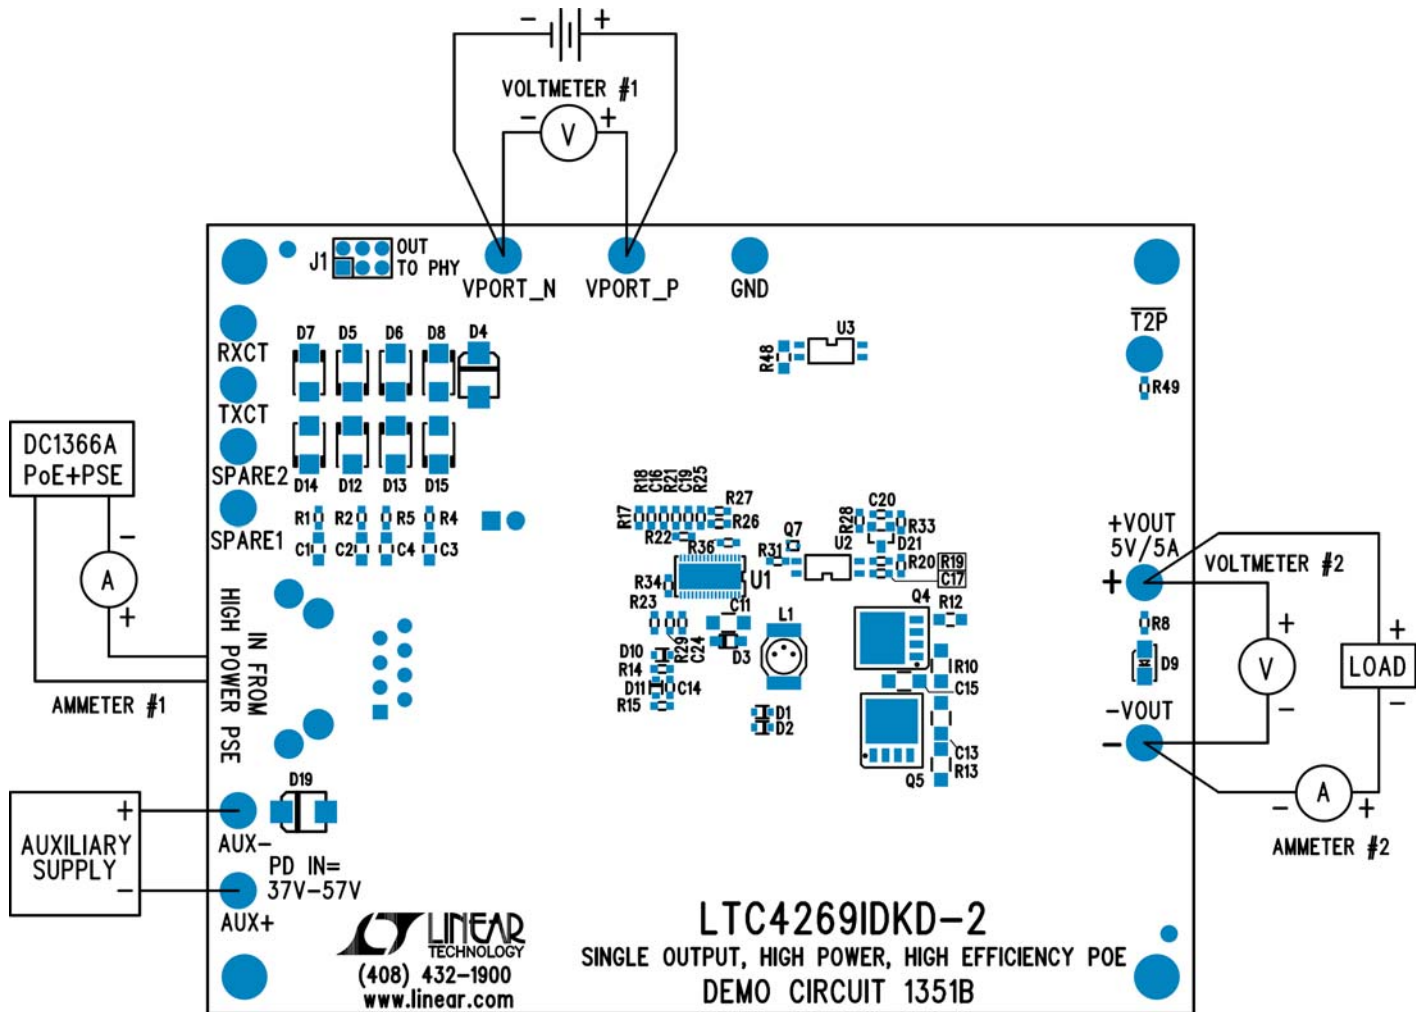

Figure 1. Proper Measurement Equipment Setup
Demonstration circuit 1351B is easy to set up to evaluate the performance of the LTC4269IDKD-2 in a PoE+ PD application. Refer to Figure 1 for proper equipment setup and follow the procedure below:
- a. Connect a PoE+ capable PSE with a CAT-5 cable to the RJ45 connector, J2. See Figure 1.
- b. Or, connect a 37V to 57V capable power supply (“Power Supply” in Figure 1) across V_{PORT_P} and V_{PORT_N} .
- c. If evaluating the auxiliary power supply (“Auxiliary Supply” in Figure 1) capability, connect a 44V to 57V capable power supply across AUX+ to AUX-.